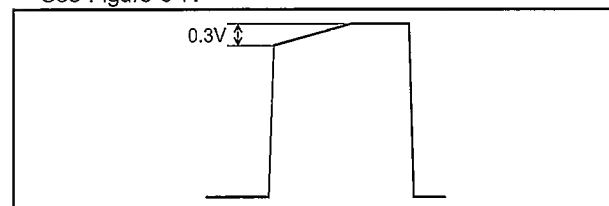

Figure 6-6 The tilt of the top line is 0.3 V.
- Connect the channel A of the oscilloscope via a probe to the other output from the T-piece, see Figure 6-6.
- Connect the probe to test point X2. For trimmers and test points see Figure 6-6.
- Connect the probe to test point X2. For trimmers and testpoints see Figure 6-6.
- Connect the probe to test point X4. For trimmers and testpoints see Figure 6-6.